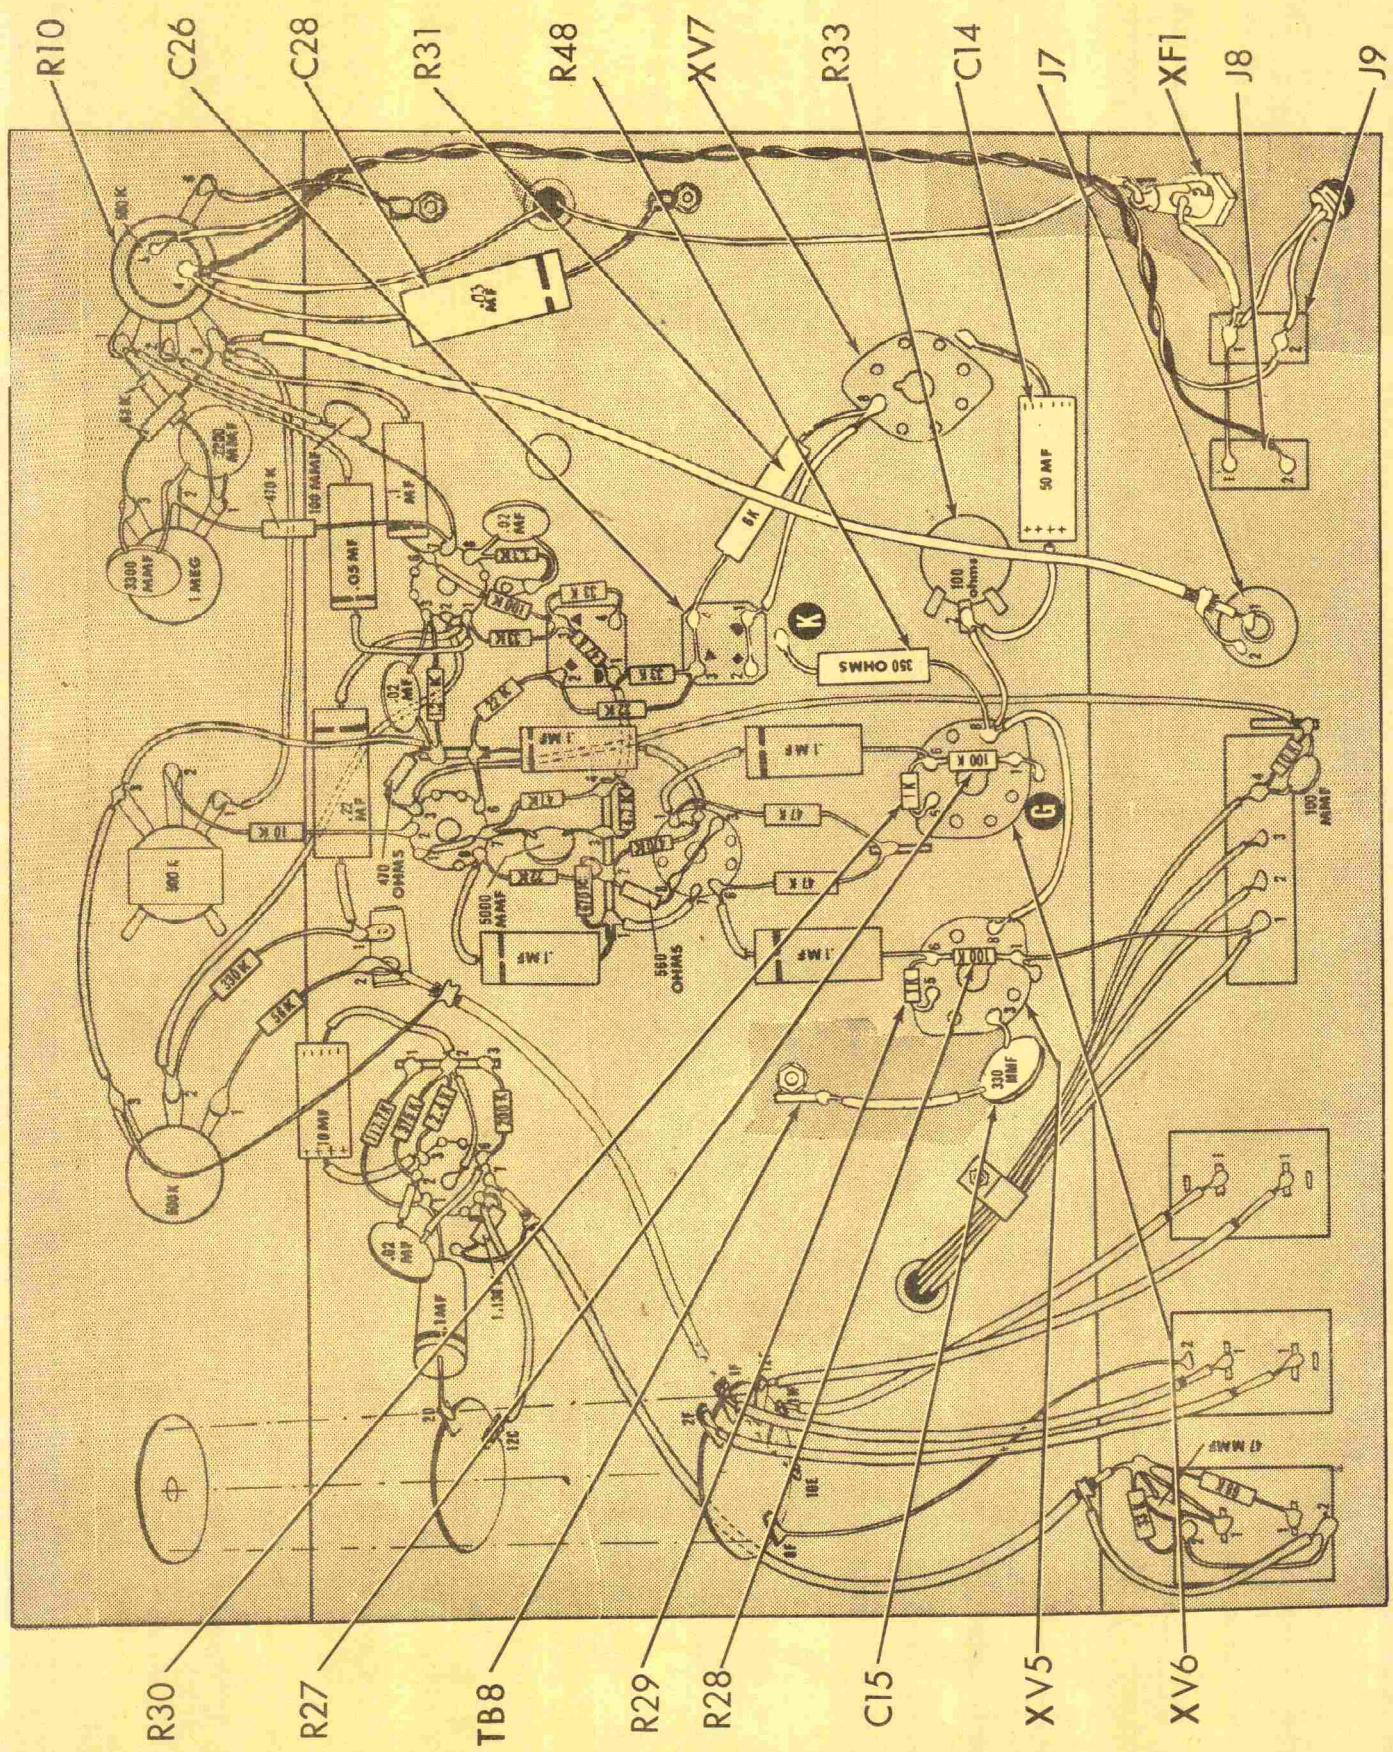

Fig. 6
- () Fig. 6. Connect a 1K resistor, R29, from XV5-6 (C) to XV5-5 (S).
- () Fig. 6. Connect a 1K resistor, R30, from XV6-6 (C) to XV6-5 (S).
- () Fig. 6. Connect a 100K, 5% resistor, R28, from XV5-6 (S) to XV5-1 (S).
() Fig. 6. Connect a 100K, 5% resistor, R27, from XV6-6 (S) through XV6-1 (S) to ground "G" (S) on XV6.
() Fig. 6. Connect the 330mmf capacitor, C15, from XV5-3 (S) to TB8 (S). Be sure to use spaghetti on both pigtauls.
() Fig. 6. Connect a 4" yellow lead from XV5-8 (S) to XV6-8 (C).
() Fig. 6. Connect a 2" yellow lead from XV6-8 (C) to R33-2 (C).
() Fig. 6. Connect a 50mfd capacitor, C14, from R33-2 (S) to ground "J" on XV7 (S). Note that the negative lead goes to ground "J". Use spaghetti.
() Fig. 6. Connect a 350Ω 7W resistor, R48, from XV6-8 (S) to ground "K" (S) on C26. Dress resistor against chassis. Use spaghetti. Dress adjacent leads away from resistor to avoid damage by heat generated in operation.
() Fig. 6. Connect a 6K 10W resistor, R31, from C26-4 (S) to XV7-8 (C).
() Fig. 6. Connect a 4" blue lead from XV7-8 (S) thru C26-1 (S) to C26-2 (S).
() Fig. 6. Connect a .03 mfd 20% capacitor, C28, from R10-4 (C) to ground lug "C".
() Fig. 6. Connect one black lead from the power transformer T1 to R10-4 (C). Connect the other black lead to the fuseholder XF1-1 (S).
() Fig. 6. Connect a black lead from XF1-2 (S) to convenience outlet J9-1(C).
() Fig. 6. Connect a 1 1/2" piece of bare wire from convenience outlet J8-1 (S) to convenience outlet J9-1 (C).
() Fig. 6. Connect a 15" black lead from convenience outlet J8-2 (S) to R10-4 (S).
() Fig. 6. Connect a 14" blue lead from convenience outlet J9-2 (C) to R10-5 (S).
() Fig. 6. Cut an 8" length of shielded cable. On one end (end "A"), strip the outer insulation back 1", the braided shield 3/4", and the inner insulation 3/8". On the other end (end "B"), strip the outer insulation and braid back 3/4", and the inner insulation 3/8". Wrap one turn of a 2" length of bare wire around the exposed shield at end "A" and solder. Connect the inner lead of end "A" to J7-1 (S) and the bare wire to J7-2 (S). Connect the inner lead of end "B" to R10-3 (S).
() Fig. 6. Insert a 3/8" grommet into the hole at the rear of the chassis. Pass the line cord through this grommet. Knot the line cord inside the chassis 3" from the end. Connect one lead to J9-1 (S) and the other lead to J9-2 (S).